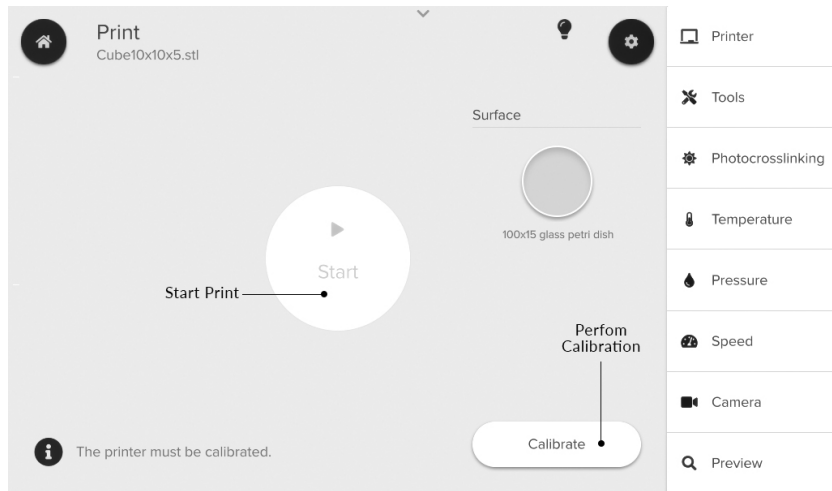

Figure 22: Bioprint menu. You can calibrate the system and begin the bioprinting process.
9. Select Calibrate to calibrate the system. Set the EMD Printhead to the desired printing height (Figure 22). A calibration height of 1-3 cm is recommended for the needleless threaded nozzle, and 0 mm for the needle threaded nozzle.
10. Start the bioprinting process (Figure 22).